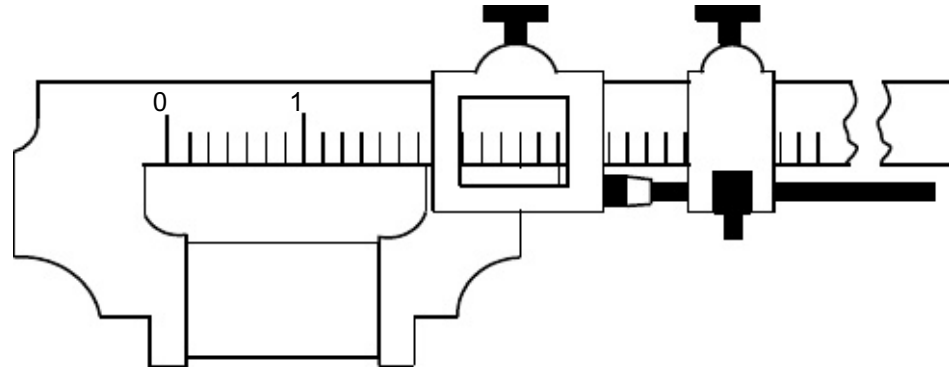

Figure 1.
4.1.6.1 The TI must indicate the Gage Block size within the stated accuracy listed as per Table 1 directive for TI being calibrated. Refer to Figure 1.
4.1.7 Measure the first selected Gage Block from step 4.1.1 to verify TI Outside Dimension linearity. Refer to Figure 1.